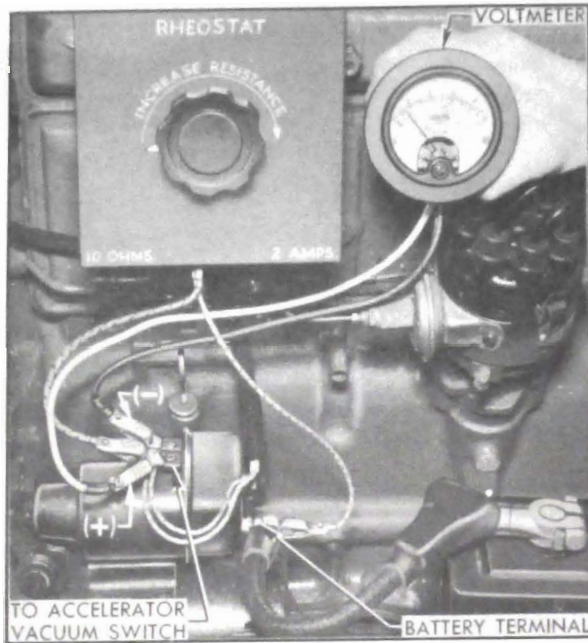

Figure 10-48—Connections for Testing Cut-in and Cut-out Voltages of Solenoid Switch Relay
2. Set rheostat to provide full resistance. Connect one lead of rheostat to battery terminal on solenoid switch, and connect other lead to terminal on solenoid switch relay which has white wire with black parallel tracers connected to it. This wire is connected to the accelerator vacuum switch. See figure 10-48.